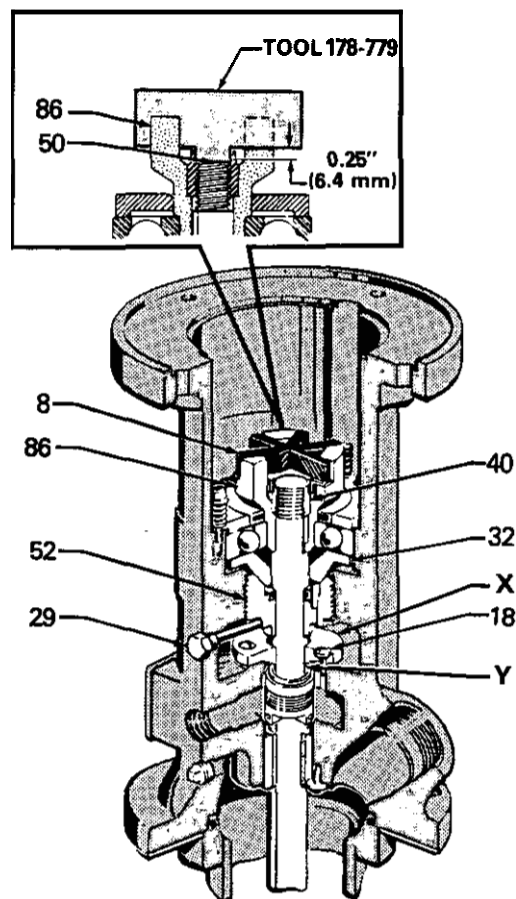

Fig 7
20. Position the bearing support (32) on the adjusting nut (52) so the adjusting nut pin and the slot in the support align.
21. Screw the adjusting nut (52) down just until the bearing support (32) bottoms on the housing. Then turn the nut back 1 to 1-1/2 turns to re-engage the bearing support.
22. Slide the coupling assembly (86) over the shaft (50).
23. Align the keyway and insert the key (86d) between the coupling assembly and shaft.
24. Use the special tool, 178-779, to check the shaft location dimension. See Fig 7, page 8. Place the tool on the face of the coupler, between the coupler tabs as shown in the detail of Fig 7. The tabbed portion of the tool should touch the top of the shaft (50). Screw the adjusting nut (52) up until you attain the 0.25 in. (6.8mm) dimension.
25. Install the shaft nut (40) using a socket wrench and bottom it on the coupling assembly (86).
26. Align the hex of the nut retainer plate (86c) with the shaft nut (40) and secure the lockwire (86d).